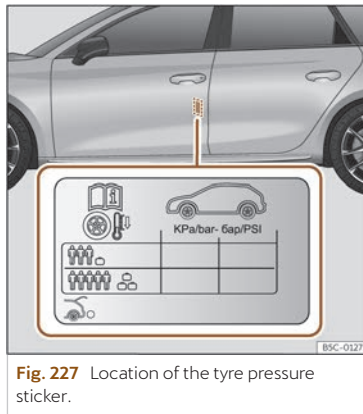

Fig. 227 Location of the tyre pressure sticker.
- Adjust tyre pressure to the load being carried by the vehicle >>> **Fig. 227**.
The values of the tyre pressure are shown on the sticker label located on the rear frame of the front left door >>> **Fig. 227.**
The tyre pressure must be adjusted according to the load the vehicle is carrying. If the vehicle is going to be fully loaded, increase the tyre pressure to the maximum load value shown on the sticker label >>> **Fig. 227.**
In the case of a minimised temporary spare wheel (125/70 R16 or 125/70 R18) inflate to a pressure of 4.2 bar as indicated on the tyre pressure label >>> **Fig. 227.**
- The driver is responsible for ensuring that all of the vehicle tyres are correctly inflated to the right pressure. The recommended tyre pressure is indicated on the label >>> **Fig. 227.**
- Tyre pressure should be that indicated on the label when the tyres are cold at all times >>> **Fig. 227.**